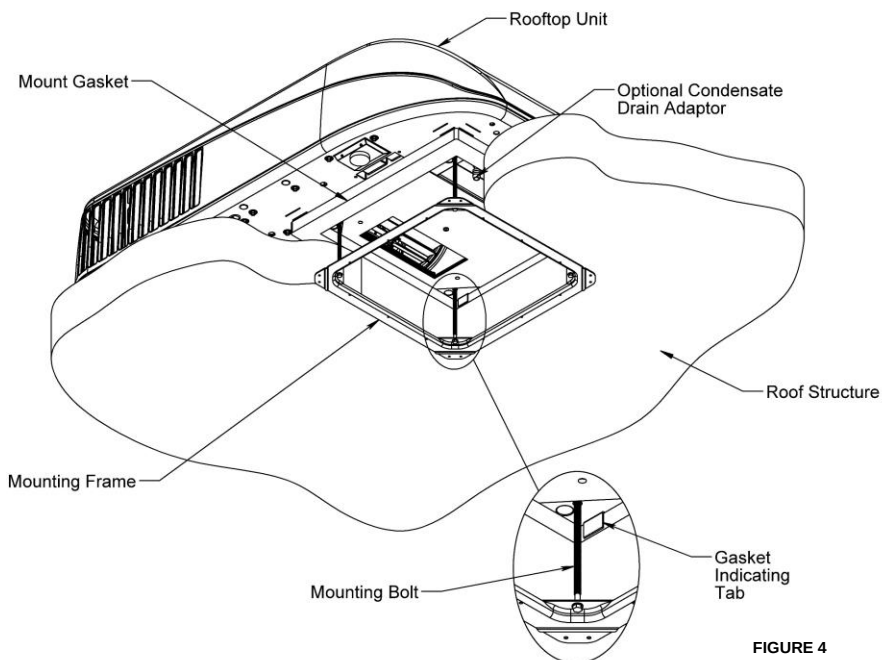

FIGURE 4
Refer to Figure 4 to secure the rooftop unit to the roof.
3. Proper tension has been achieved for each bolt when any portion of each gasket indicating tab has been pulled down even with the roof (See Figure 4).
4. If the heat pump is equipped with the optional evaporator condensate pump, a 1/2" I.D. hose must be provided by the installer that runs from the 14" square opening, through the vehicle ceiling and down the side wall. This allows the condensate to drain under the vehicle. The hose must not be allowed to kink shut while making a bend. Connect the top end of the drain hose to the barbed fitting shown in Figure 4.